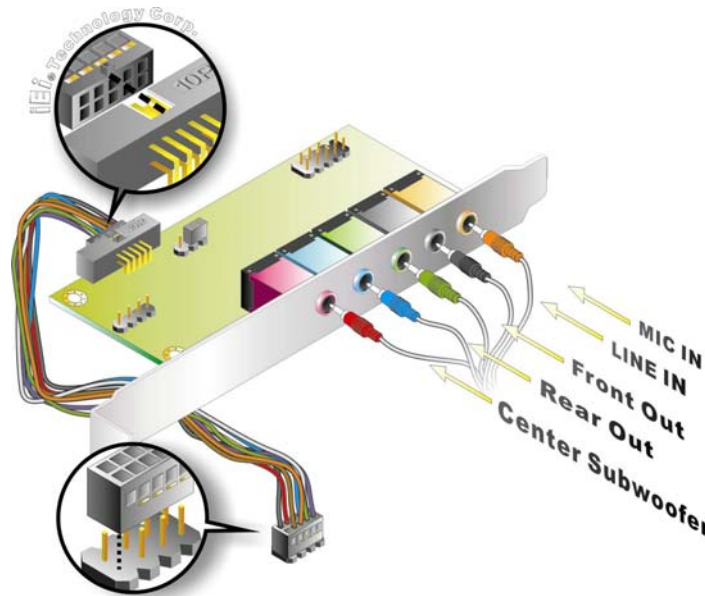

Figure 5-11: 7.1 Channel Audio Kit
- Step 3: Align pin 1.** Align pin 1 on the on-board connector with pin 1 on the audio kit cable connector. Pin 1 on the audio kit cable connector is indicated with a white dot. See **Figure 5-11**.